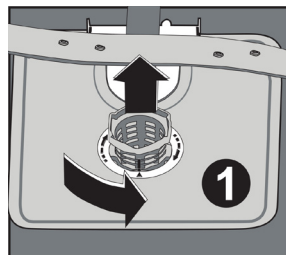

Fig. 13
- Turn the micro-filter anti-clockwise and then lift it out (Fig. 13).